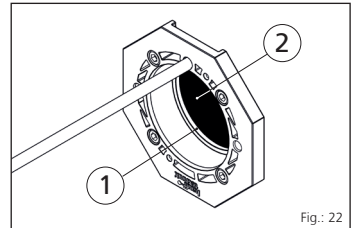

Fig.: 22
Fully installed MIS100/VT63-ND (see Fig. 22).
Legend for Fig.: 22
- *No gap may be visible between the sleeve pipe and the stop (see Fig. 22).*